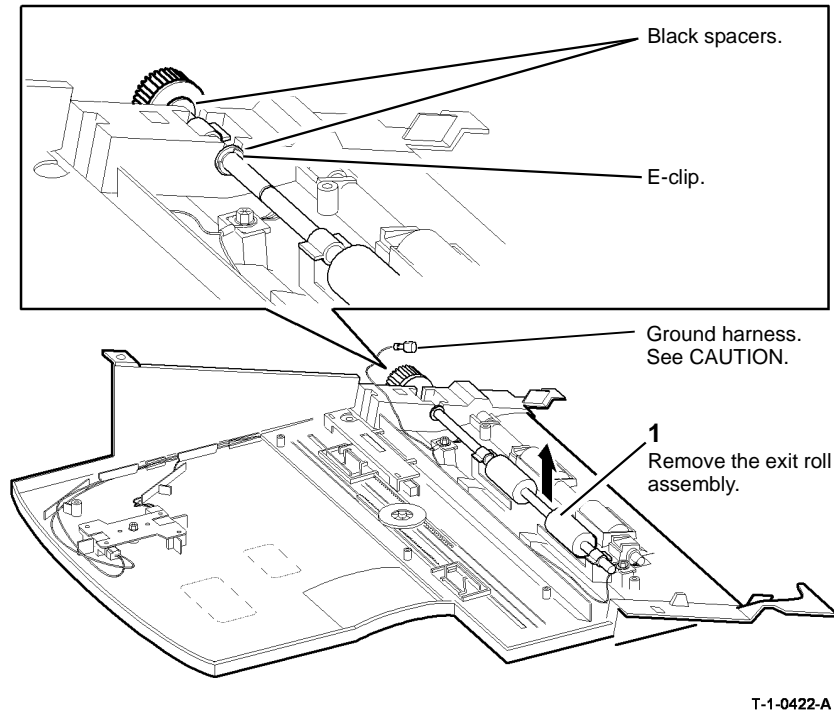

Figure 1 Exit roll assembly
4. Remove the exit roll assembly, Figure 1.